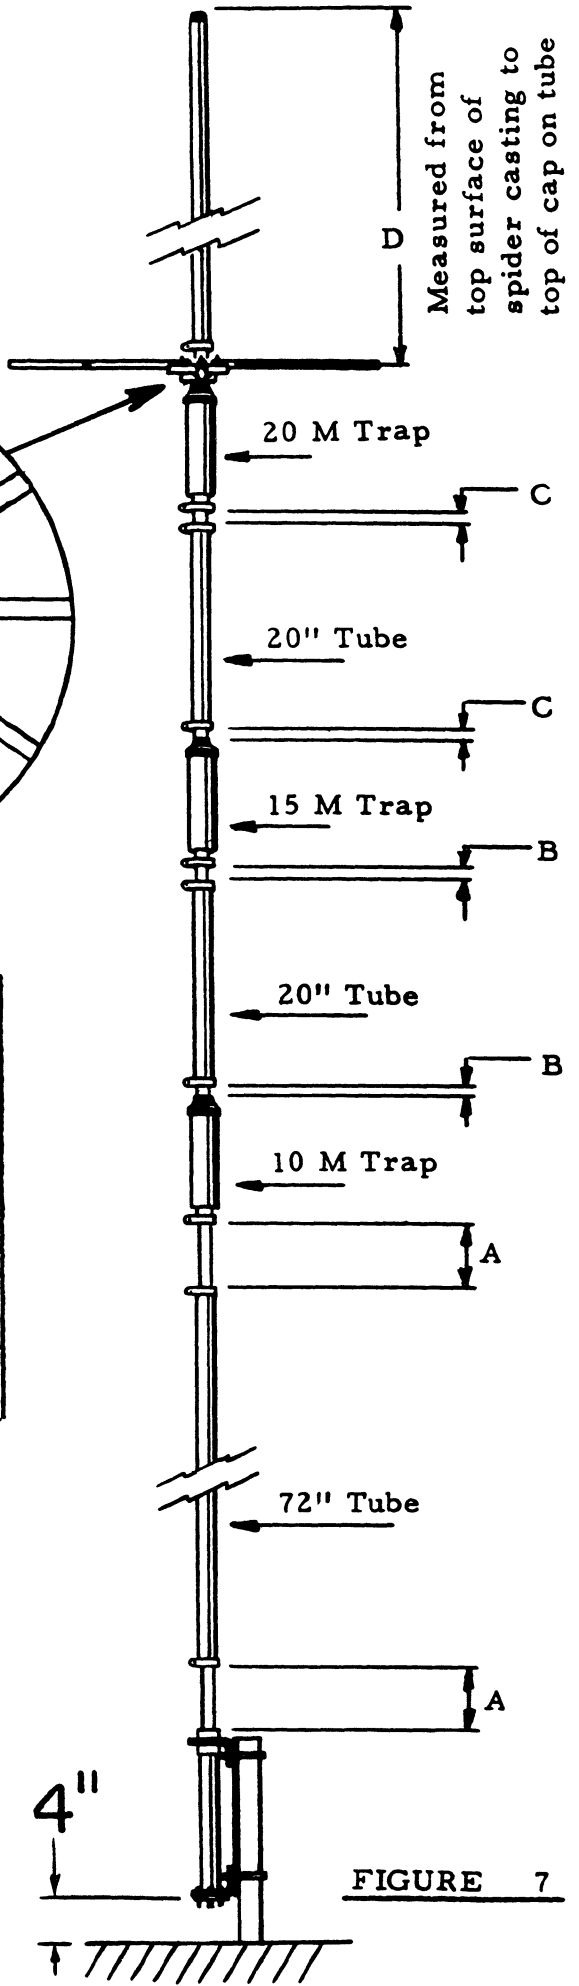

FIGURE 7
11. Install the 10 meter trap to the 1-1/4" x 72" tube, using one of the clamp assemblies. Set to Dimension A from Table 1, Figure 7, the measurement should be made at the end of the long tube and the bottom edge of the trap. Securely and carefully tighten the clamp.
- 1 - With reference to Figure 7, mark the location of the bottom "A" dimension and remove the 4-BTV from its base by loosening the lowest stainless steel clamp.
- 7 - Reactance of the resonator may cause slight change in 40 meter resonance. This is easily corrected by adjusting element dimension "D", Figure 7.